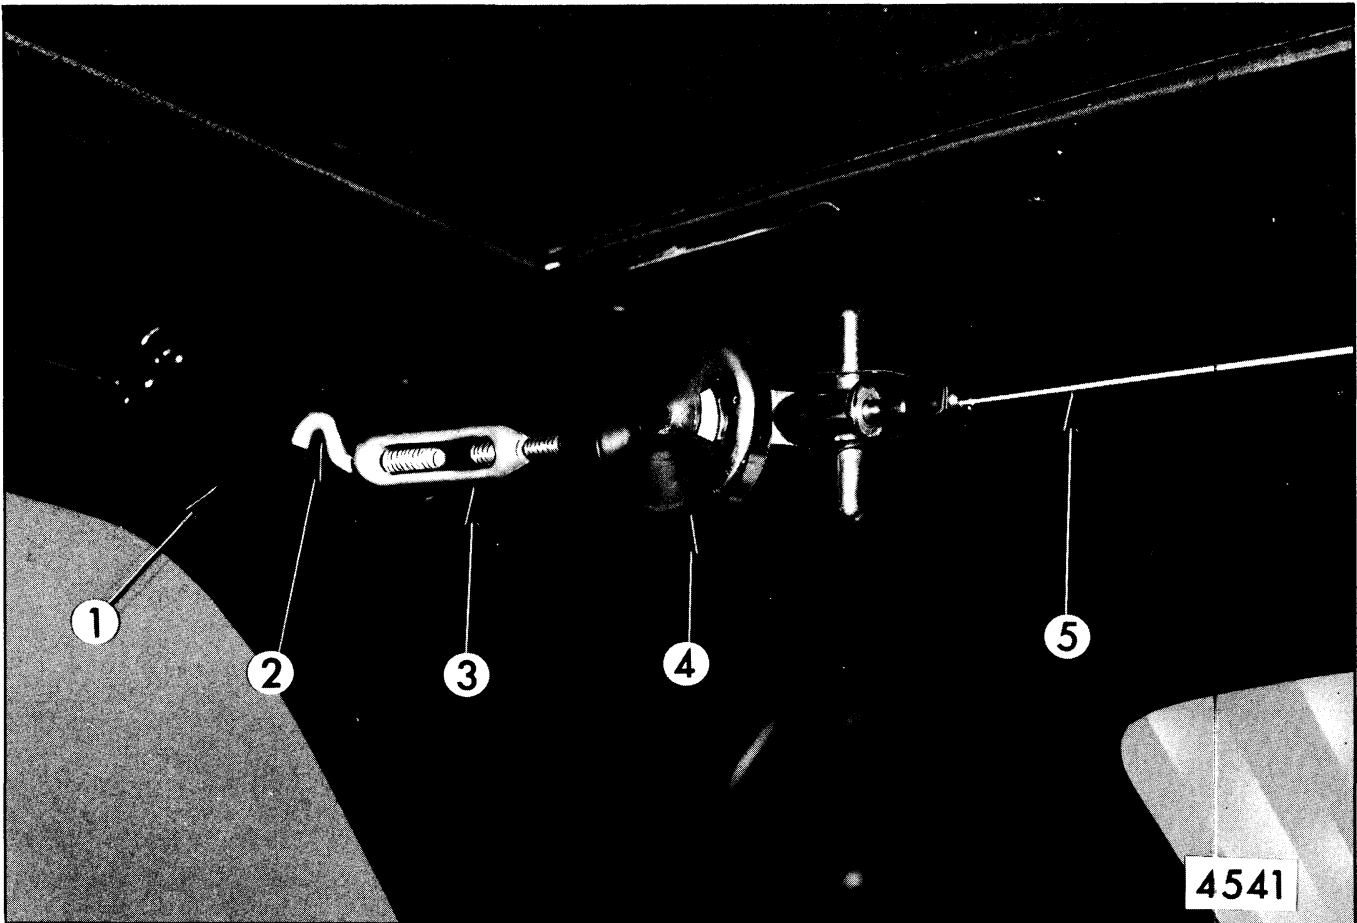

Fig. 8-77-Inward Folding Top Tension Checking Tool
1. With top raised and locked at windshield header, mount tension checking tool (J-23790 or BT-7111, or equivalent) on each inner rear rail at center bow (Fig. 8-77).